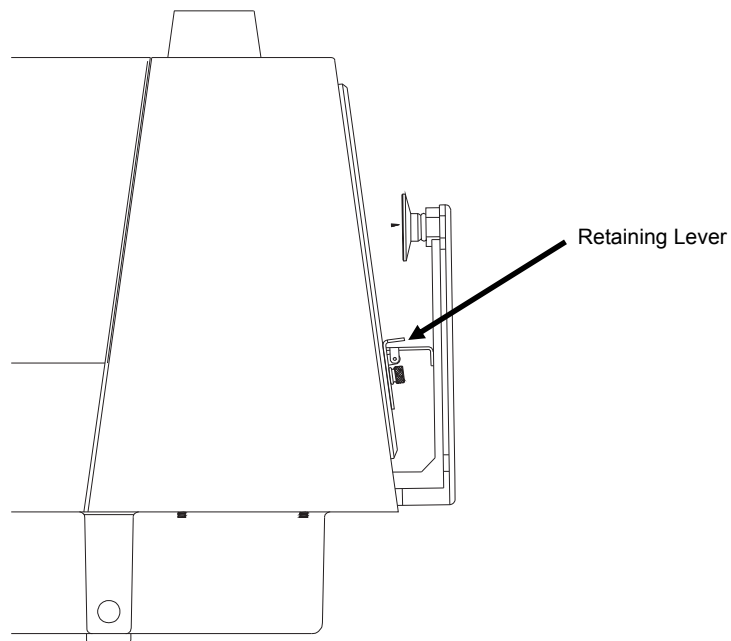

Figure 4-5. Retaining Lever in Place
2. Rotate the retaining lever upward until it stops. See Figure 4-5.
1. Raise the retaining lever and rest the sample arm against the retaining lever. See Figure 4-5.